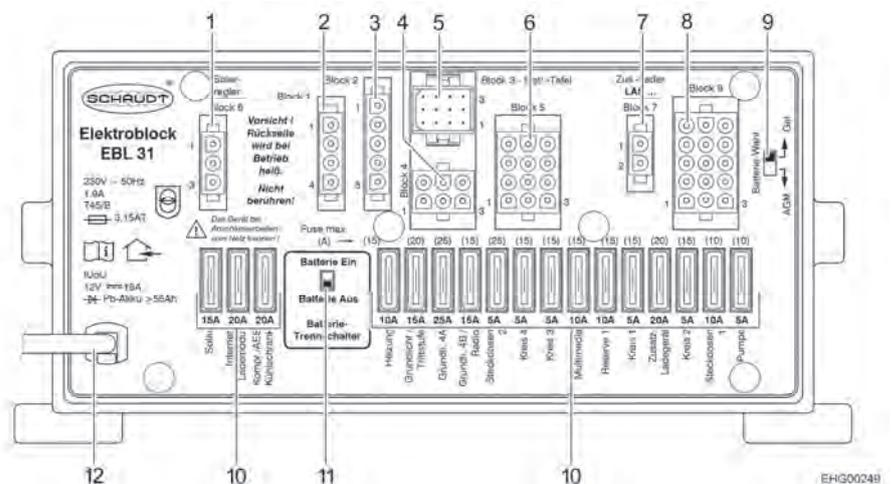

Fig. 100 Transformer/rectifier (EBL 31)
- ▷ To disconnect **all** electrical 12 V appliances from the power supply and prevent discharge of the living area battery, set the battery cut-off switch (Fig. 100,11) to "Batterie Aus" (battery Off) on the transformer/rectifier.
- ▷ Appliances such as the transformer/rectifier itself, the panel, the heater, the solar charge regulator (if present) and other devices consume a small amount of standby current and thus discharge the living area battery over time. Therefore, you switch the battery cut-off switch (Fig. 100,11) on the transformer/rectifier to "Batterie Aus" (battery Off) when the vehicle is not used for a long period of time.